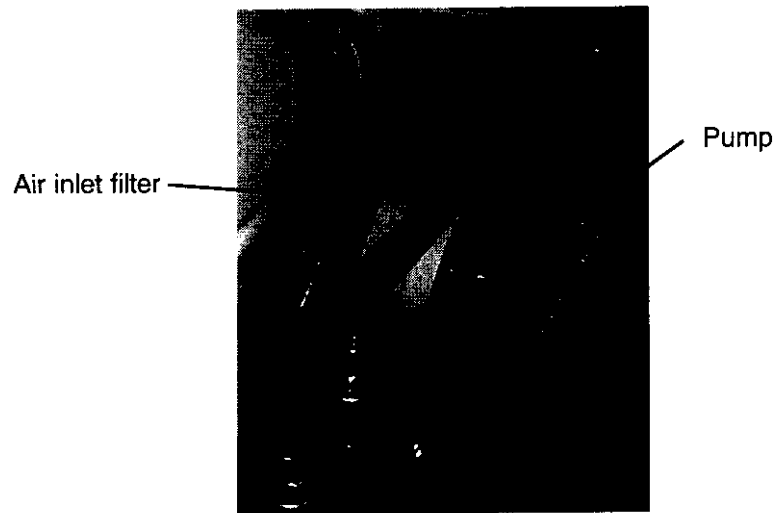

Figure 36. Dehydrator Pump Air Inlet Filter
- f. Locate the air inlet filter on the pump (refer to Figure 36).